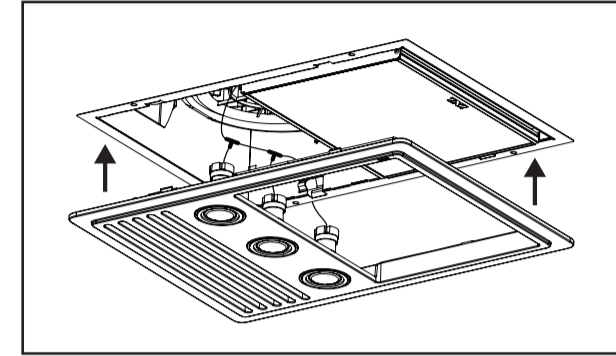

Fig 14.
6. Once all the LEDs are secure in the fascia, push the fascia firmly up into position in the body. Ensure the fascia is in contact with the ceiling all around the unit. (Fig 14).